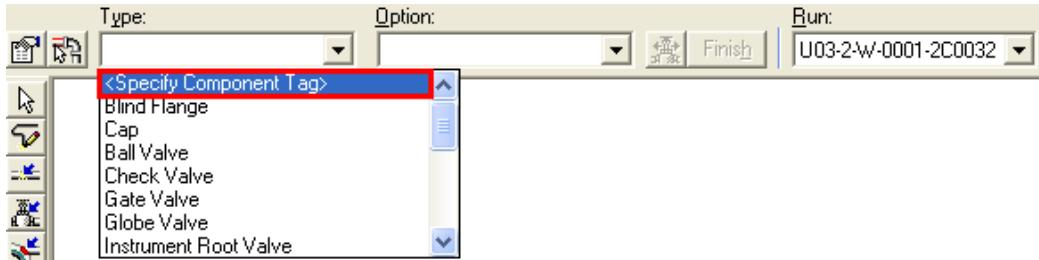

Figure 16: Specify Component Tag on the Insert Component Ribbon
1. Select the **Specify Component Tag** from the **Type** drop-down list on the **Insert Component** ribbon to select the item from the catalog as shown in Figure 16.